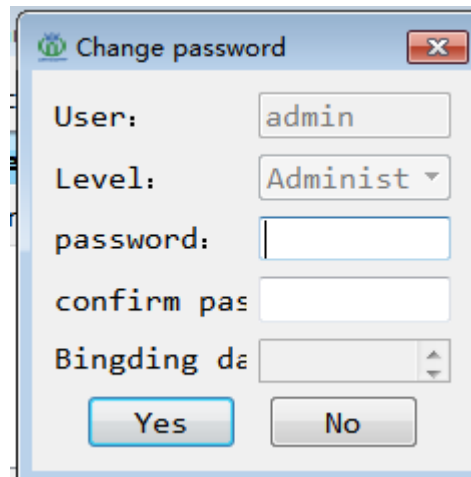

Fig. V-94 Change Password
2) Click "Change Password" button to enter the password change interface (Fig. V-94).